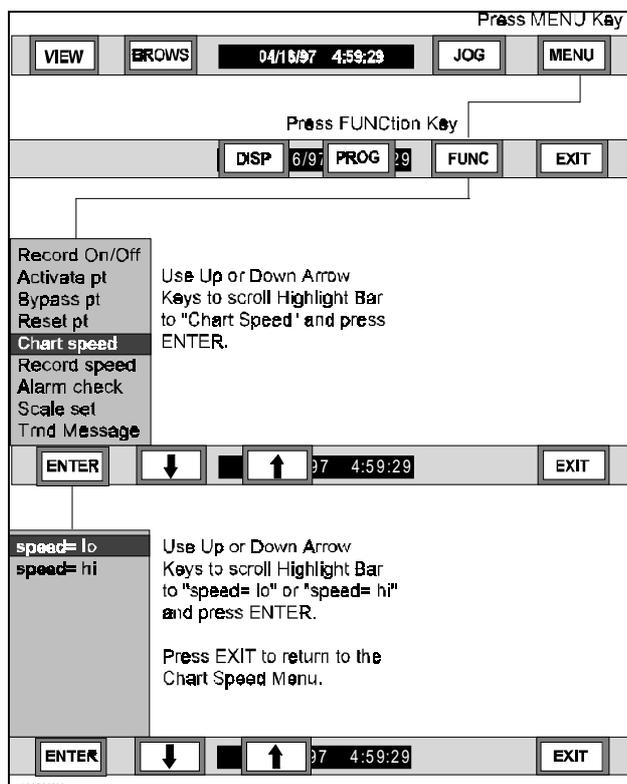

Figure 3-36 Select Chart Speed Flow Chart
E. Chart speed - This menu item selects between High and Lo chart speed. The actual chart speed is changed in the PROGRAM - Chart/Pens - Speed menu. The default setting for both high and low chart speed settings is 60 inches per hour. When the chart speed is modified, the new speed and the time is printed on the left side of the screen. To select the chart speed, use the following instructions and Figure 3-36: